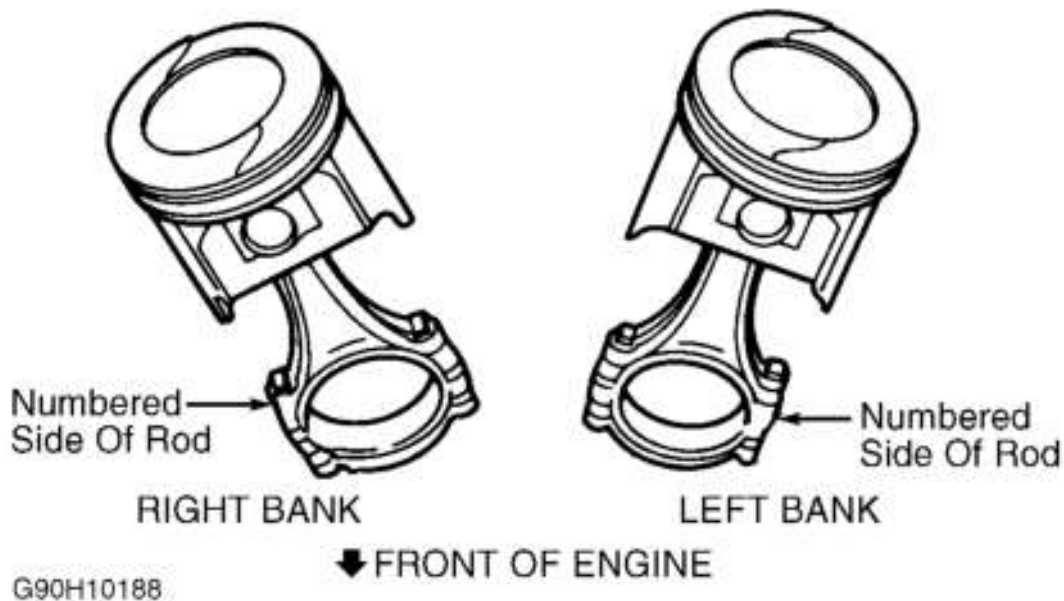

Fig. 7: Positioning Piston & Rod
1. Ensure pistons and rods are installed in cylinder from which they were removed. Ensure indentation on piston top is positioned as shown in illustration. See **Fig. 7**.
2. Ensure numbered side of rod faces outward. See **Fig. 7**. When installing replacement rods, ensure large-chamfered side of connecting rod bearing bore is toward crankshaft cheek, facing front of engine for right rods and rear of engine for left rods.